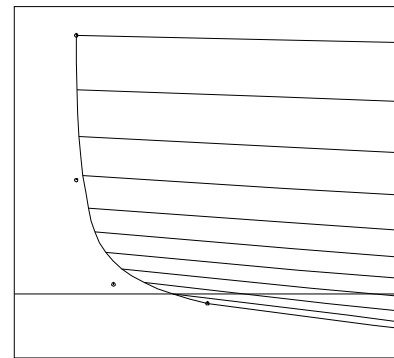

Fig. 5
**9 Drag 'P53' forward to about  $X = 29.6$  (Fig. 5).**